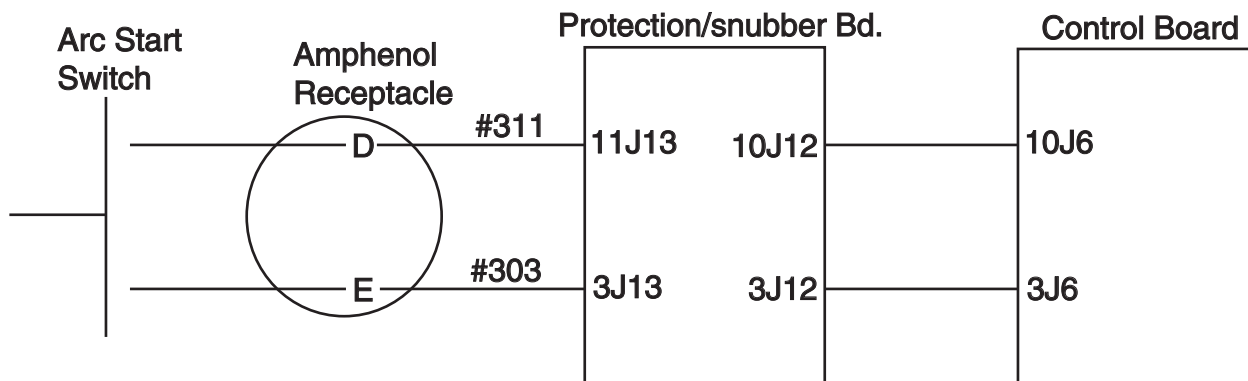

FIGURE F.10 - ARC START TRIGGER CIRCUIT.
- Arc Start Trigger Circuit, (Figure F.10)